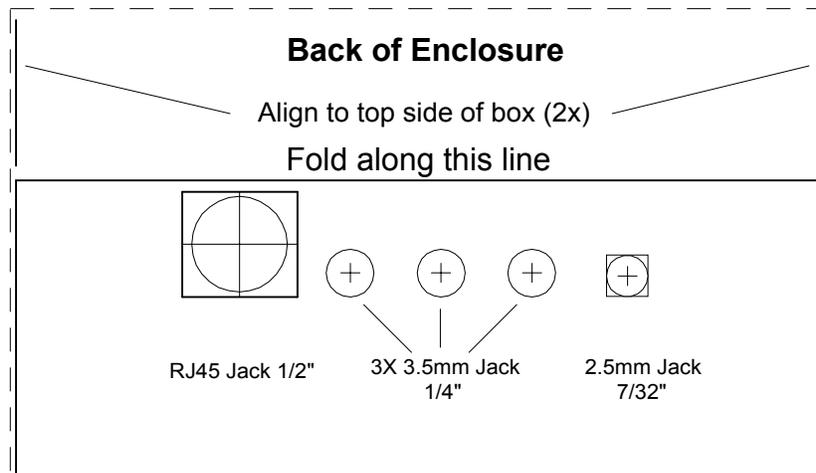

Figure 5.13 Enclosure Template
5.2.2.2.1 Drill Template - the drill template for the enclosure is show in figure 5.13 below. The actual drill templates are supplied with the interface kit. Cut out the template, along the dotted line. Fold the template along the top line, place this over the side of the enclosure. Line up the side edges of the enclosure with the lines at the top. Once aligned, tape the template to the box using clear tape. Mark the center of each hole to be drilled with a sharp pointed tool such as an awl, or the tip of the exacto knife. Next use the knife to score through the template on the lines of the square cutouts for the 2.5mm jack and the RJ45 jack. After this has been done, you can remove the template and proceed with drilling and trimming the enclosure.